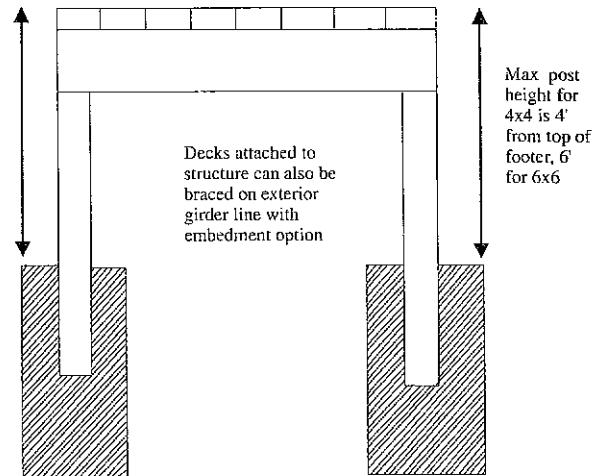

FIGURE AM109.2
**AM109.1.3.** For freestanding decks without knee braces or diagonal bracing, lateral stability may be provided by embedding the post in accordance with Figure AM109.2 and the following: